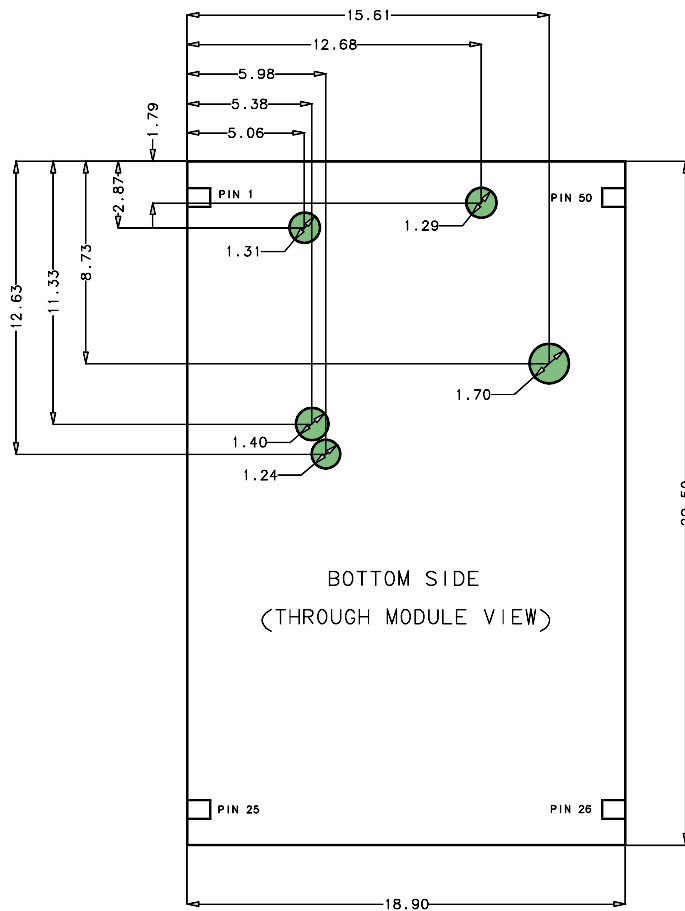

Figure 50: Signals keep-out below data module on application motherboard due to GND opening on data module bottom layer for internal RF signals
2. Signals Keep-Out below module on Application Motherboard due to GND opening on LEON-G100/G200 bottom layer for internal RF signals (see Figure 50).